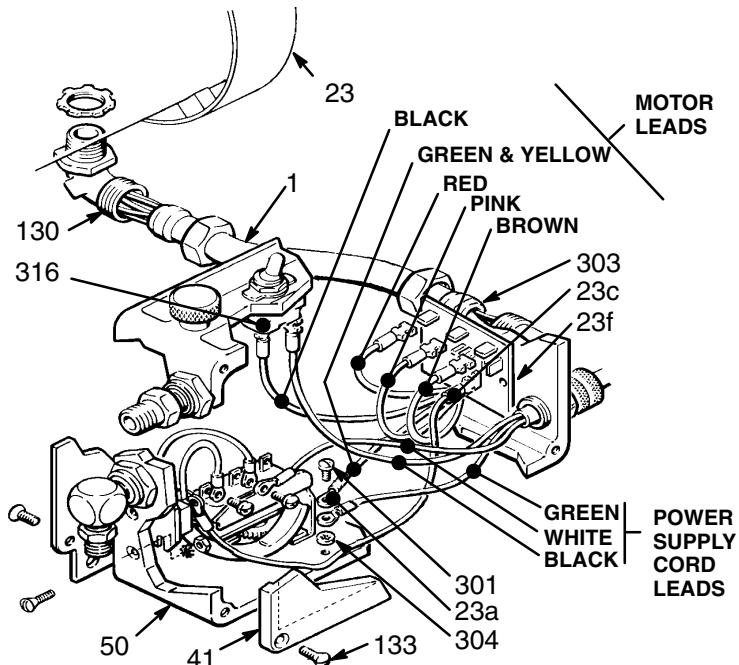

Fig 19
7. Loosen the locknut and unscrew the connector (130) from the motor , being careful to avoid twisting the wires. See Fig 19.